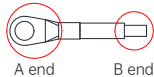

Fig. 5 Grounding terminal connection
- (5) Grounding: MV810-CANopen01 must be grounded during wiring, as shown in Fig. 5. You need to prepare and crimp the cable by yourself.